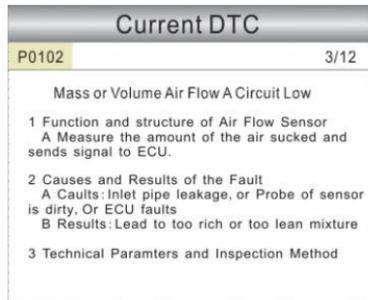

Figure 5-11
If the DTC is defined by the manufacturer, a screen similar to Figure 5-11 will appear. In this case, press [OK] to select the manufacturer from the list and the screen will show the detailed content of the trouble code.
**Some DTC have the tips guide, it is the next page of Figure 5-11. It shows the structures of sensor, the cause and Results of Fault and give you the parameters and inspection method.**